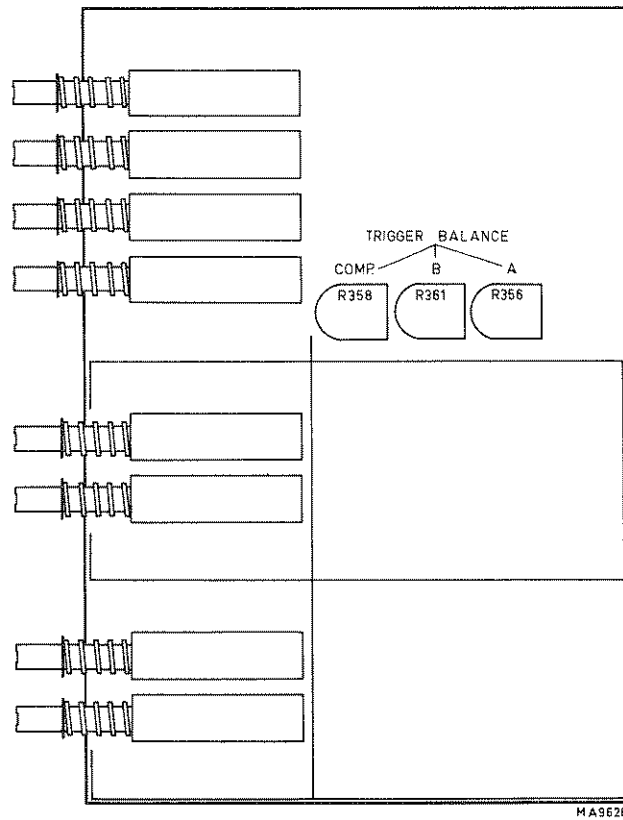

Fig. 3.16. Adjusting elements attenuator board
- Check that the spot lies in the center of the screen. If necessary readjust potentiometer R356 (Fig. 3.16).
- Check that the spot lies in the center of the screen. If necessary readjust potentiometer R361 (Fig. 3.16).
- Check that the spot lies in the center of the screen. If necessary readjust potentiometer R358 (Fig. 3.16).